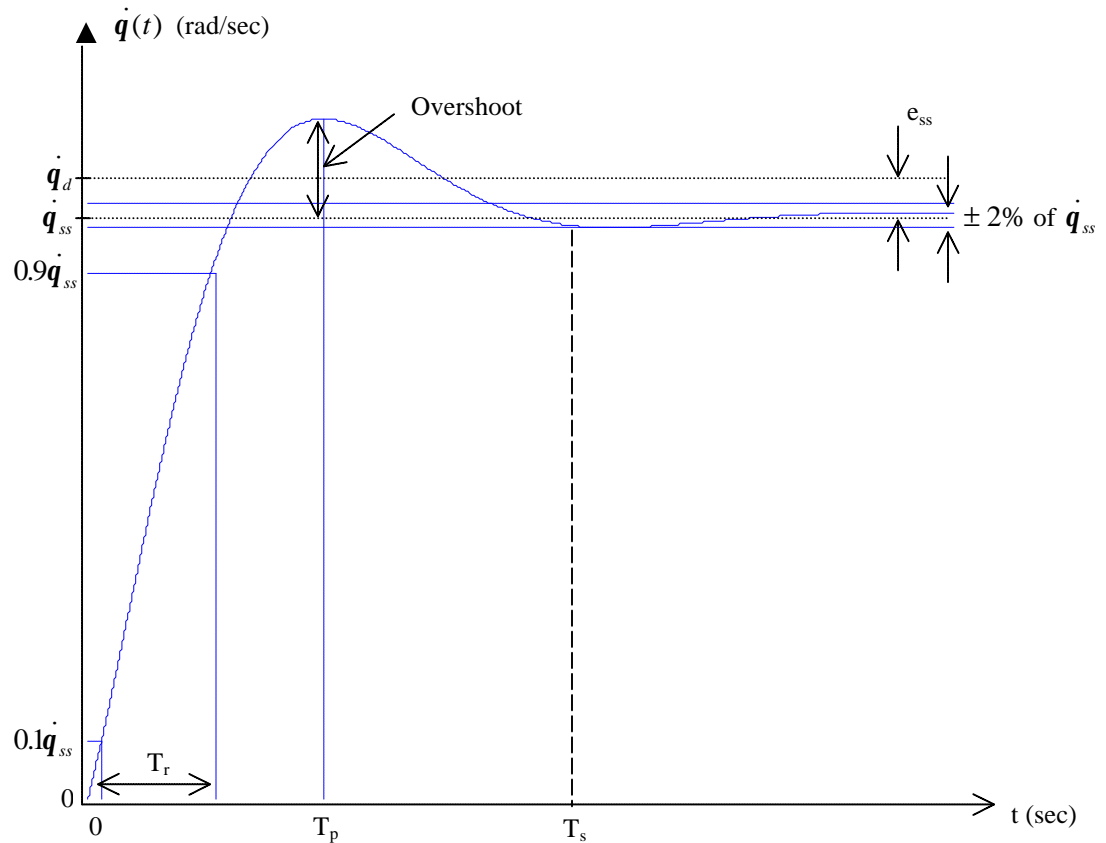

Figure 4: Performance Metrics for Control System Step Responses
- Adjust the open loop gain K , so $\dot{q}_d(t) = \dot{q}(t)$ and plot response. Measure the response peak time T_p , percent overshoot P.O., settling time T_s , rise time T_r , and steady state error e_{ss} as shown in Figure 4 and discussed in Table 1.